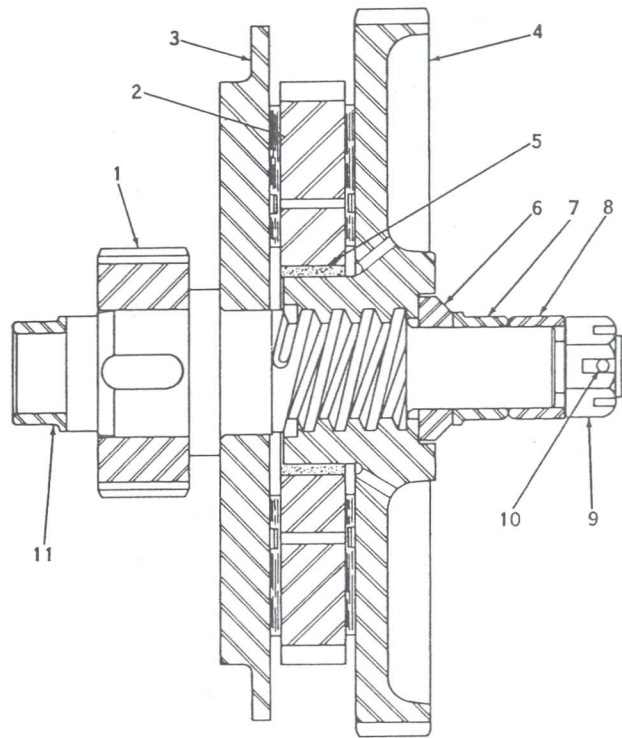

Figure 5-11. Load Brake Shaft Assembly
3. Remove the snap ring (13) and the disc hub (14).
4. Disconnect the conduit from the gear case cover (15).
6. If the motor pinion shaft did not come out with the gear case cover, withdraw the motor pinion shaft (10) by pulling it straight out from the splined coupling (9). Leave the coupling in place.
7. Remove the pawl pin (27). Slide out the pawl (26) with the load brake spring cap assembly (28).
9. If it is necessary to disassemble the load brake shaft assembly (Figure 5-11), firmly secure the intermediate pinion (1) in a vise with protective jaws. Remove the cotter pin (10) and nut (9). Remove the motor gear (4) by unthreading it, clockwise, from the shaft, as viewed from the motor gear end of the shaft. The motor gear will serve as a jack screw for removal of items 6, 7, and 8. The bearing inner race (11) and pinion are pressed on to the shaft and must be pulled if they are to be removed for replacement.